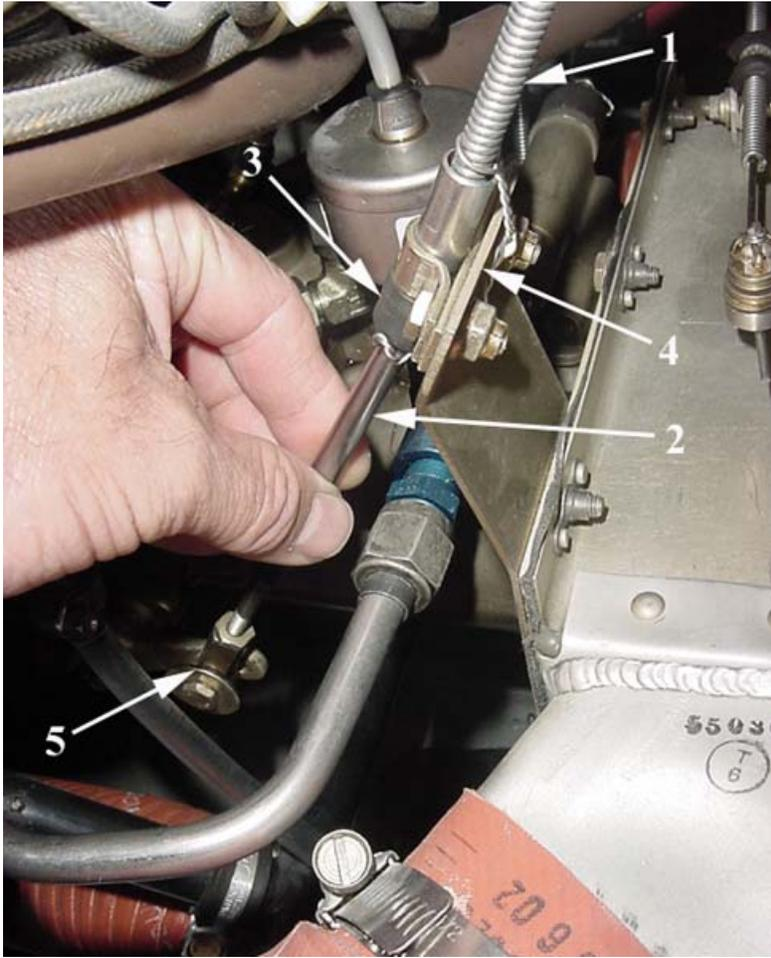

Figure 1
Refer to Figure 1
2. Locate throttle cable (1) and sleeve (2).
3. Grasp sleeve (2) as depicted in Figure 1 and attempt to pull the sleeve downward from swivel collar (3) using hand force.
- a. If sleeve (2) remains secure in the swivel, the cable is satisfactory for flight. Close and latch the left cowl door.
- b. If sleeve (2) pulls away from the swivel, a serviceable throttle cable must be installed prior to further flight.
- Figures 1, 2, 3 & 4**